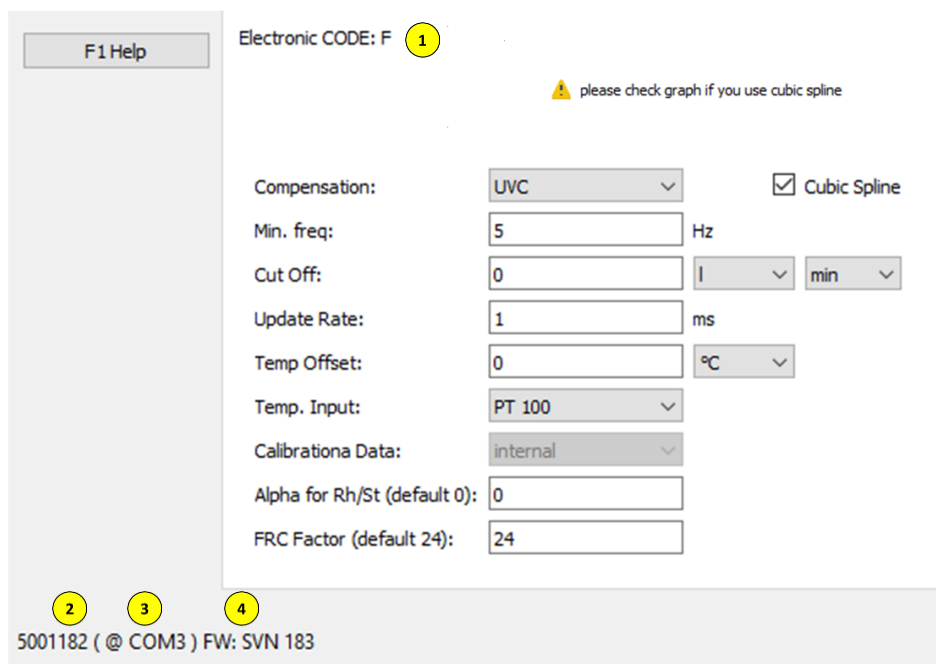

Figure6 Information of the software
| <p>(1) Configuration code of the hardware (Figure6)The software functionality is automatically adapted to the configuration code.</p> | <p>(3) COM port (Figure6)Is automatically selected</p> |
| <p>(2) PCB serial number (Figure6)</p>   | <p>(4) Firmware rev (Figure6)</p>                           |